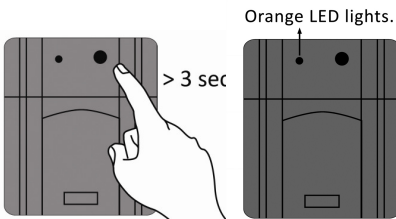
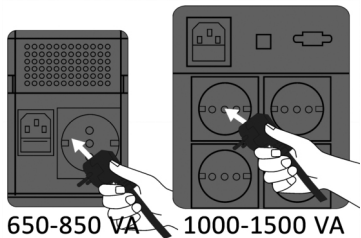

Figure 3.5
Figure 3.6
- a. The UPS can be started up from the battery without mains connection (Cold Start). Press and hold On/Off button until a warning beep sounds (Figure 3.5). The Operation Status LED lights in orange. Once the Operation Status LED is orange, you can connect your loads to output socket(s) (Figure 3.6).